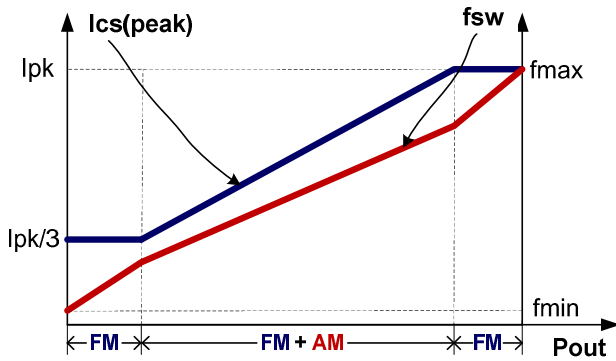

Fig.4
To meet the tight requirement of averaged system efficiency and no load power consumption, a hybrid of frequency modulation (FM) and amplitude modulation (AM) is adopted in DP1806 which is shown in the Fig 4.